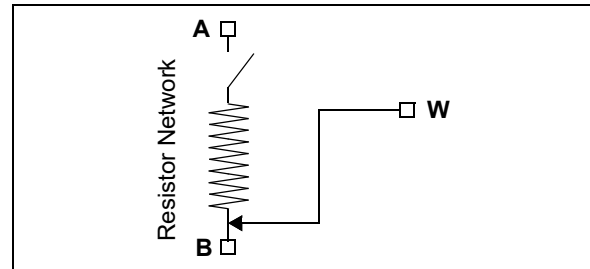

FIGURE 5-2: Resistor Network Shutdown State (RxHW = '0').
- The P0W, P1W, P2W and P3W terminals are simultaneously connect to the P0B, P1B, P2B and P3B terminals, respectively (see Figure 5-2).